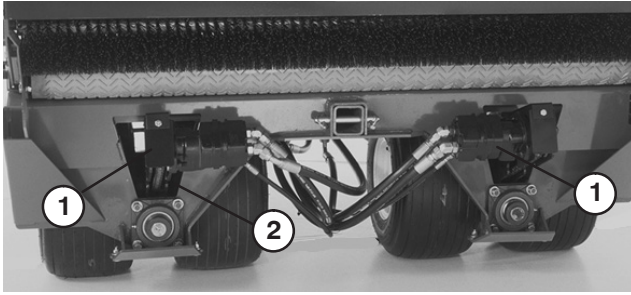

Figure 19
1. Loosen carriage bolts and nuts securing hydraulic motor/pump to axle cradle (Fig. 19).